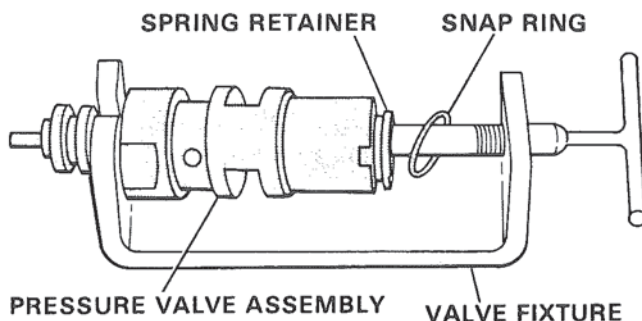
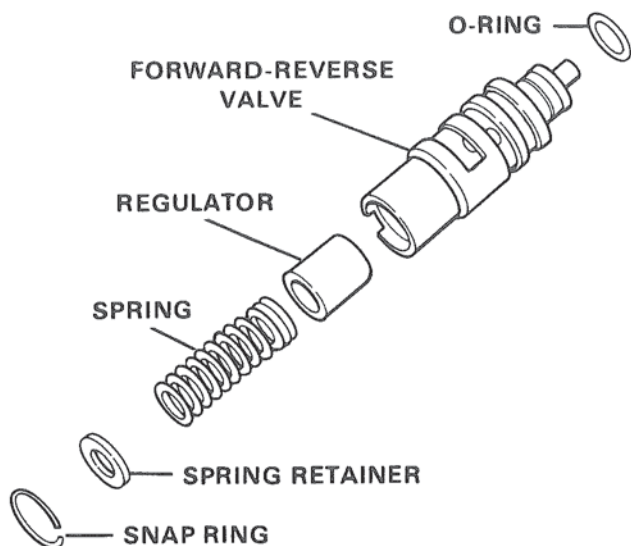

Figure 5. Control Valve Assembly in Fixture.
Figure 6. Exploded View of Valve and Spring Assembly.
4. Place valve and spring assembly in a suitable holder. Figure 5. Depress the valve spring retainer and valve spring until the snap ring is free to be removed. The components of the valve and spring assembly can now be removed in the order shown in Figure 6.